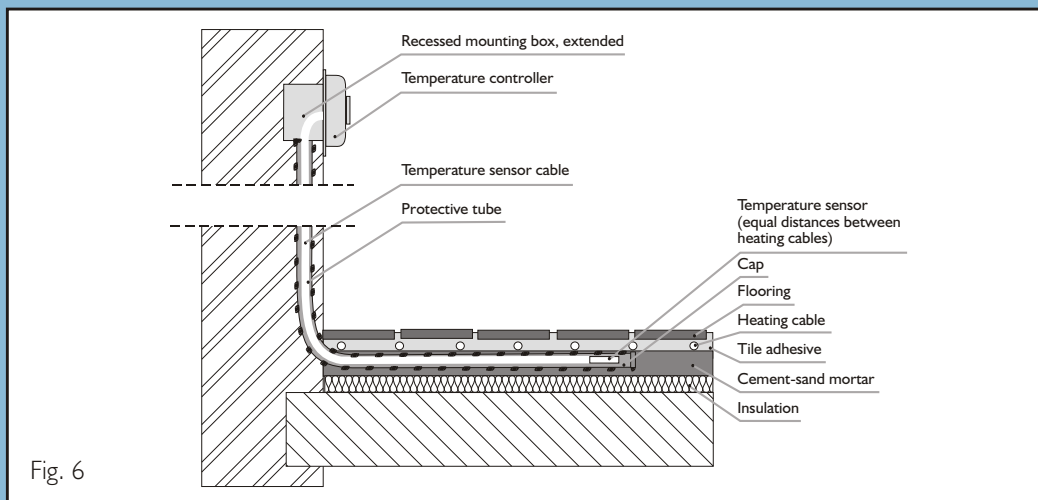

Fig. 5
2. The surface on which the ELEKTRA DM cables will be placed must be thoroughly cleaned, leveled and primed. Only a surface prepared this way will make it possible to install the cables by fixing them with hot adhesive as shown on Figure 5.